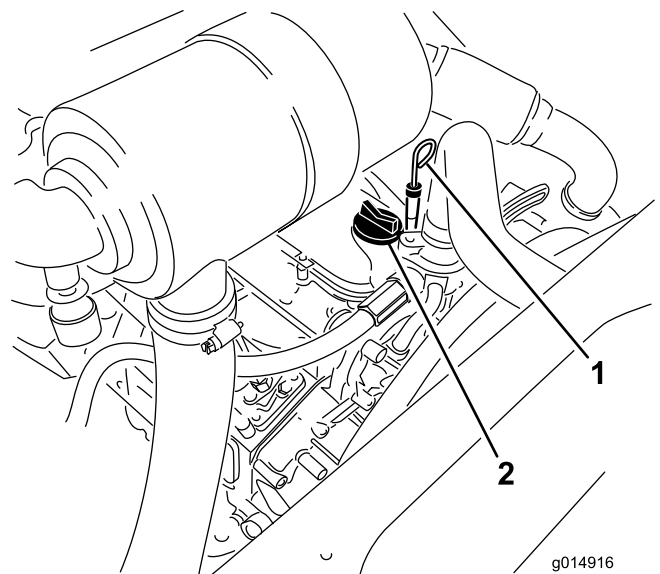

Figure 26
3. Remove the dipstick, wipe it clean, and install it (Figure 26).
5. If the oil level is below the Full mark, remove the fill cap (Figure 26) and add oil until level reaches the Full mark on dipstick.